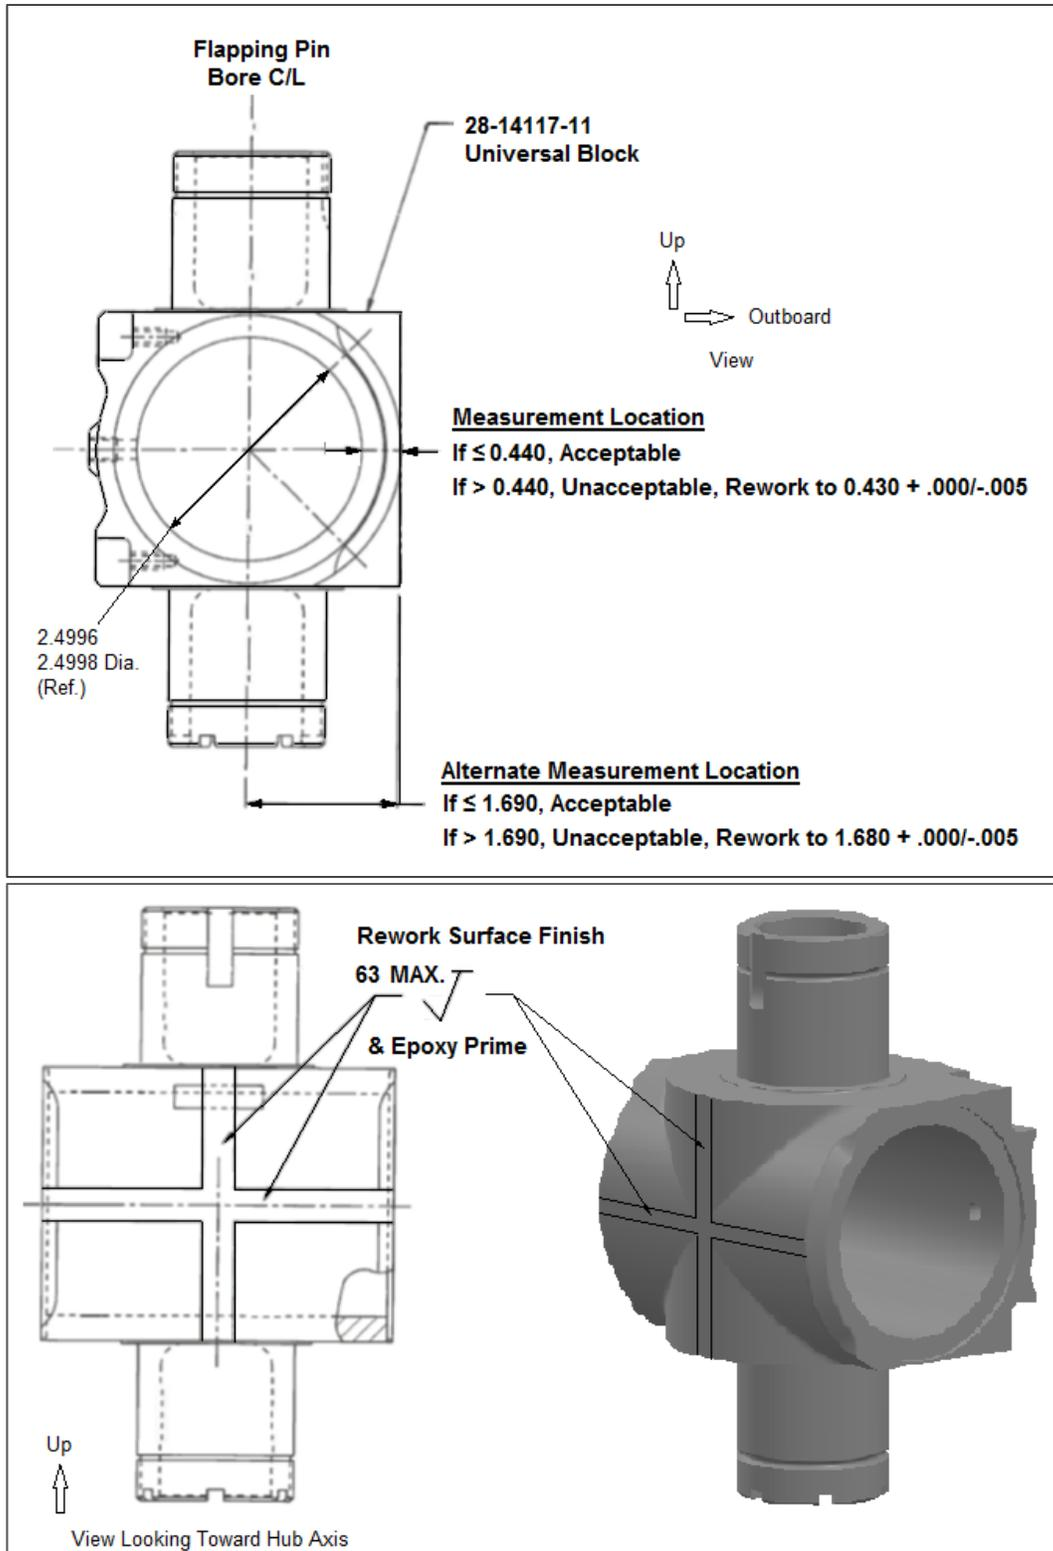

Figure 1. Universal Block Inspection (top); Rework Criteria (top and bottom)
6.2.1 Measure the cross-section distance from the flapping pin bore surface to the outside surface of the universal block (Figure 1). (An alternate measurement location, flapping pin bore centerline to outside surface, is also acceptable for determining if rework is necessary. See Figure 1.)
6.3 If the width is greater than 0.440, the universal block surface must be reworked to yield a width of $0.430 + .000/-0.005$ (Figure 1).
6.3.1 Rework the surface (63 maximum surface finish) (Figure 1).